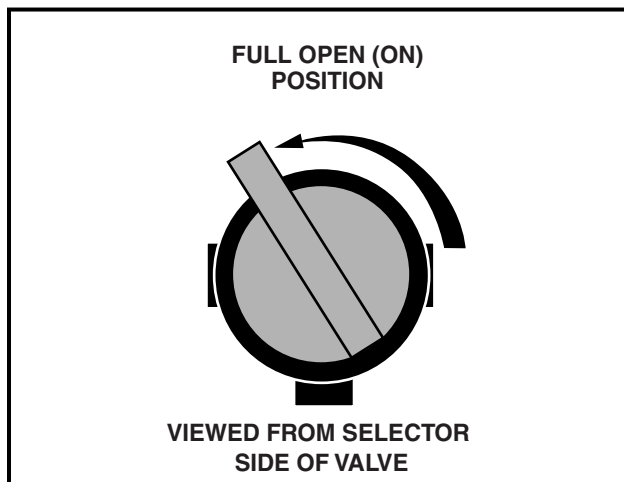
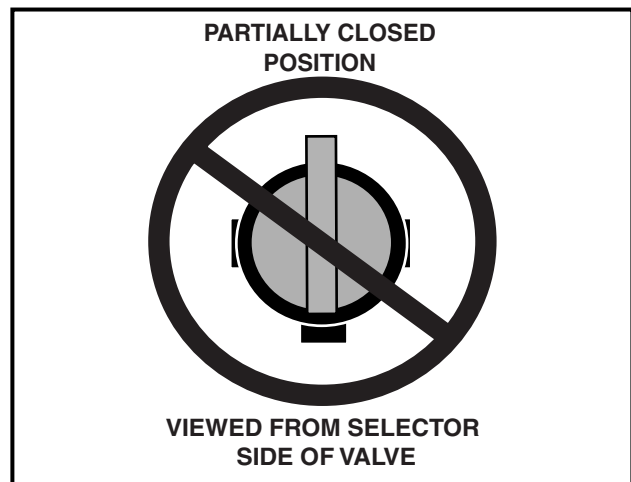

Figure 18 Fuel Shut-off Valve – Open Position
Figure 19 Fuel Shut-off Valve – Partially Closed Position
3. Completely open the fuel shut-off valve (**Figure 18**). Make sure the valve is fully open. A partially closed fuel shut-off valve (**Figure 19**) combined with the use of the choke can result in a fouled spark plug and engine failure.